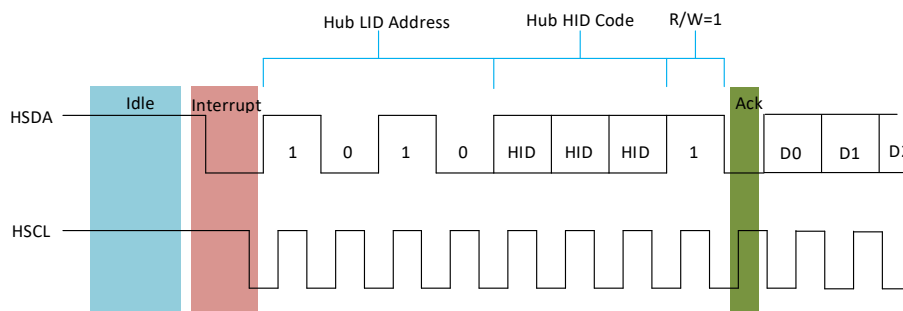

Figure 9 SPD5 Hub Interrupt - Host ACK Followed by SPD5 Hub Device IBI Payload
- a. The Host sends ACK on 9th bit to accept the interrupt request. At this point, if the SPD5 Hub confirms that it has won the arbitration, the SPD5 Hub device transmits the IBI payload as shown in Table 64 and Table 65 for PEC disabled and PEC enabled configuration respectively. Figure 9 just shows the first two data bits of the MDB byte to illustrate the timing. The interrupt payload contains MDB followed by 8-bit register contents of MR51 and MR52 in order. The host then issues the STOP command. Note the timing waveform in Figure 8. The host then accepts the IBI payload if it sends an ACK on 9th bit to accept the interrupt request. The host can interrupt the IBI payload at T. If host stops the IBI payload at T bit in the middle of payload, the SPD5 Hub device retains the IBI status flag MR48[7] = '1' and Pending Interrupt Bits[3:0] internally and waits for the next opportunity to request an interrupt. If the SPD5 Hub device successfully transmits the entire IBI payload, it then clears IBI status flag MR48[7] = '0' and Pending Interrupt Bits[3:0] = '0000' on its own and does not request for an IBI again unless there is another different event occurs; for another same event, the device does not request for an IBI.